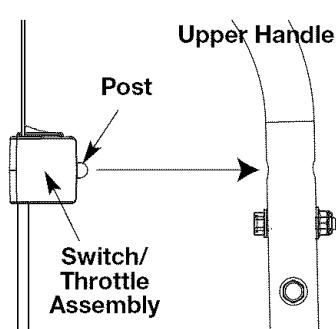

Fig. 3
9. Align the switch/ throttle control assembly post with the hole that can be found on the side of the upper handle. (Fig. 3).